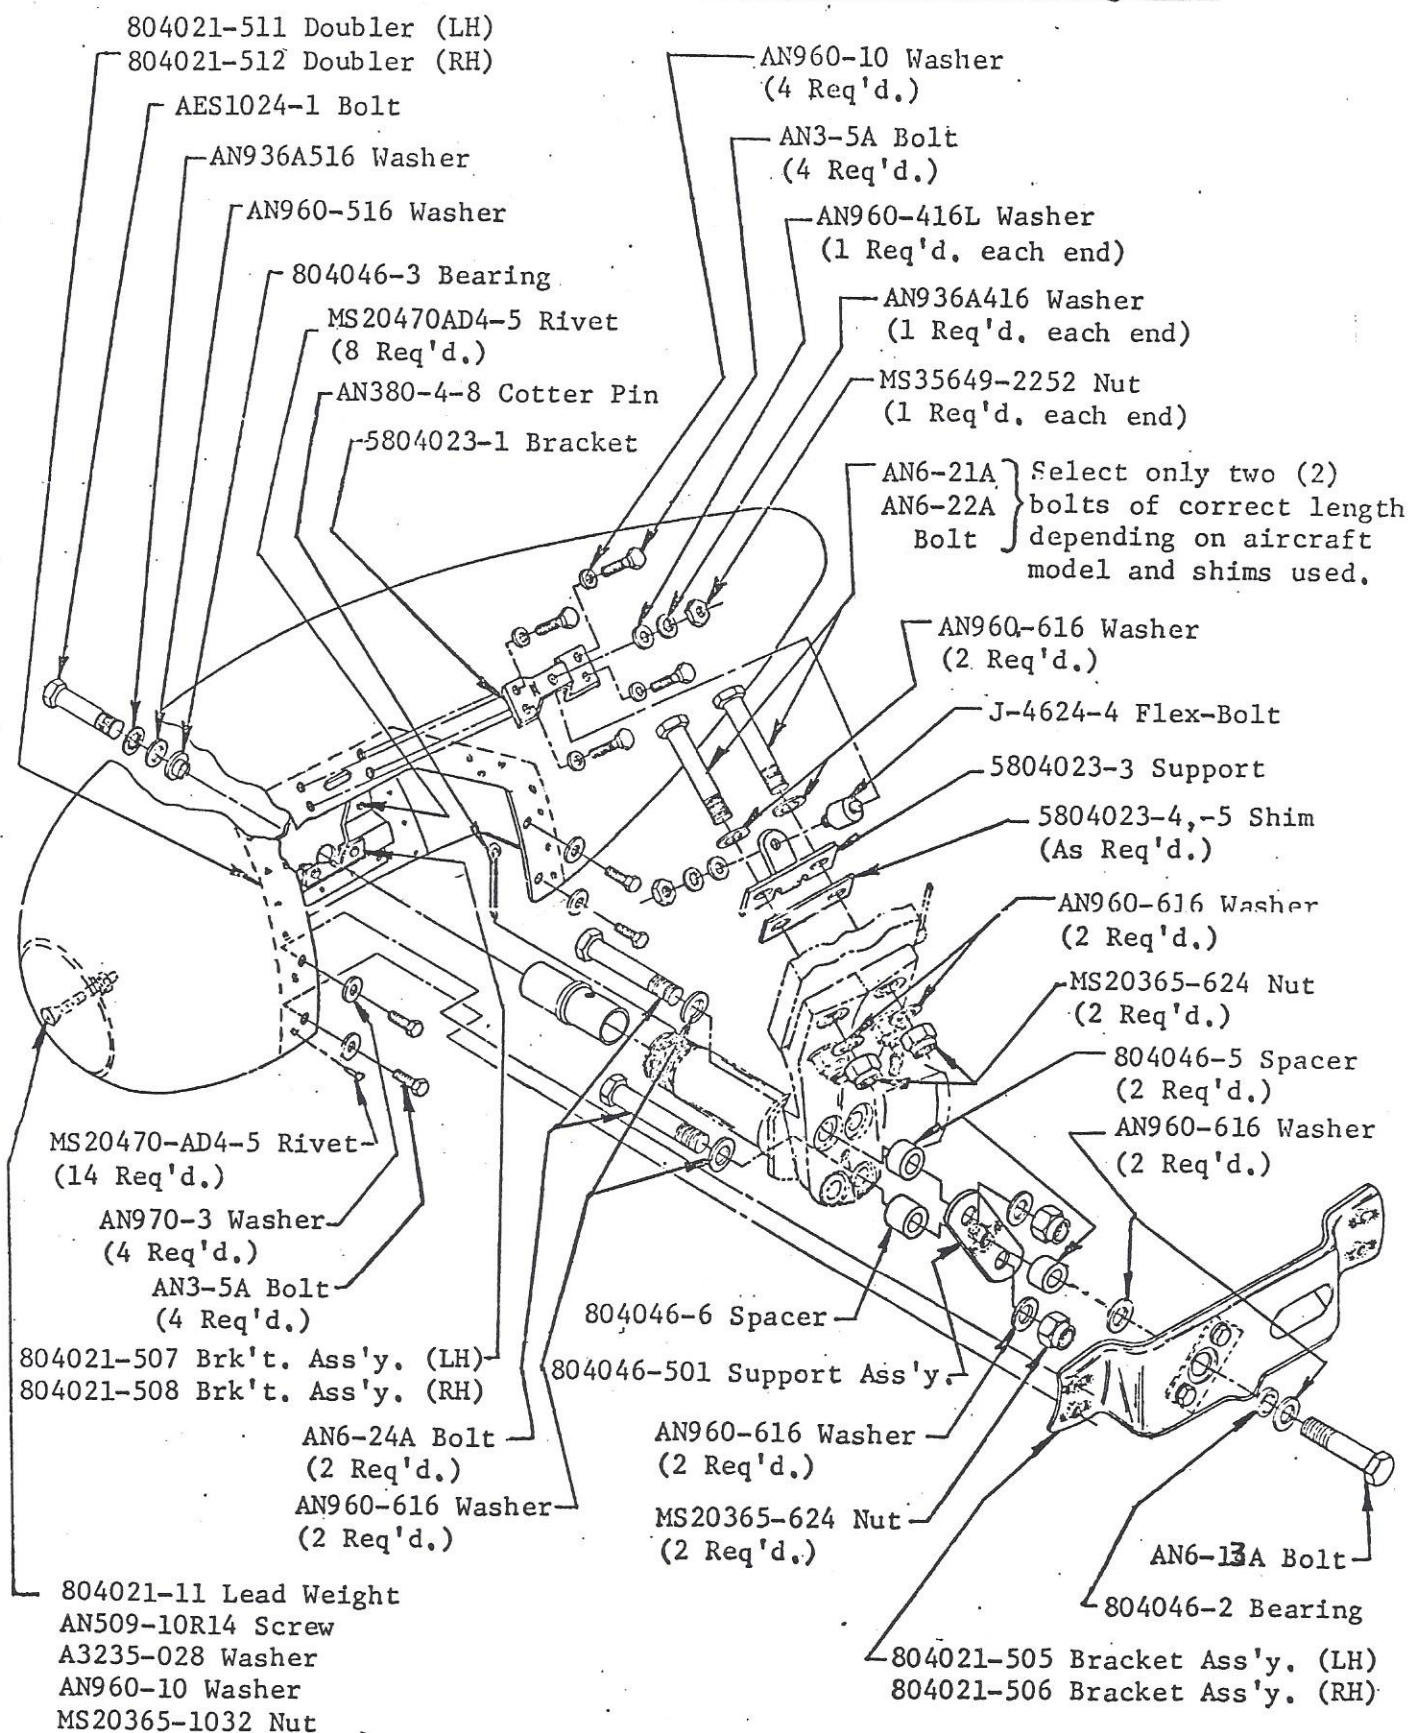

FIGURE 1. MAIN WHEEL FAIRING INSTALLATION, SMALL SHOCK-MOUNTED
1. Remove the two (2) bolts holding the brake halves together.
3. Remove the two (2) bolts holding the brake torque plate to the axle forging and replace them with AN6-24A bolts supplied with kit. Install a 804046-5 spacer (upper), 804046-6 spacer (lower), 804046-501 support assembly, two (2) AN960-616 washers and two (2) MS20365-624 nuts as shown in Figure 1. Torque nuts to 250-300 in. lbs..
5. Assemble the inboard fairing support brackets as follows: Assemble a 804021-505 (LH) or -506 (RH) support bracket assembly to the 804046-501 support assembly with an AN6-13A bolt, two (2) AN960-516 washers, a 804046-2 bearing and a 804046-5 spacer as shown in Figure 1. Be sure to assemble an AN960-516 washer on each side of the 804046-2 bearing.
1. Loosen scraper on wheel fairing assembly and slide to the full aft position. Install fairing on aircraft using four (4) AN3-5A bolts with four (4) AN970-3 washers to attach the lower inboard side to the inboard support bracket assembly and one (1) AES1024-1 bolt with an AN936A516 washer, an AN960-516 washer and an 804046-3 bearing on the outside. Torque bolt to 100-140 in. lbs. Snap NAS451-56 plug button in place.
2. Assemble the upper flex mount assembly as follows: Assemble the J-4624-4 flex bolt to the 5804023-1 bracket with an AN960-416L washer, an AN936A416 washer and a MS35649-2252 nut as shown in Figure 1. Assemble the other end of the flex bolt to the 5804023-3 support using the same washers and nut as shown in Figure 1.
3. Remove and discard the two (2) upper bolts holding the axle forging to the strut.
4. Install the flex mount assembly on the fairing with four (4) AN3-5A bolts and four (4) AN960-10 washers. Add 5804023-4 and/or -5 shims as required under the 5804023-3 support to properly align the rubber flex bolt in a nondeformed position and install the longer AN6-21A or AN6-22A bolts (length as required), supplied with the Kit. Be sure brake line clamp support tab is installed under head of aft bolt. Install the two (2) AN960-616 washers, the two (2) MS20365-624 nuts and torque to 250-300 in. lbs.